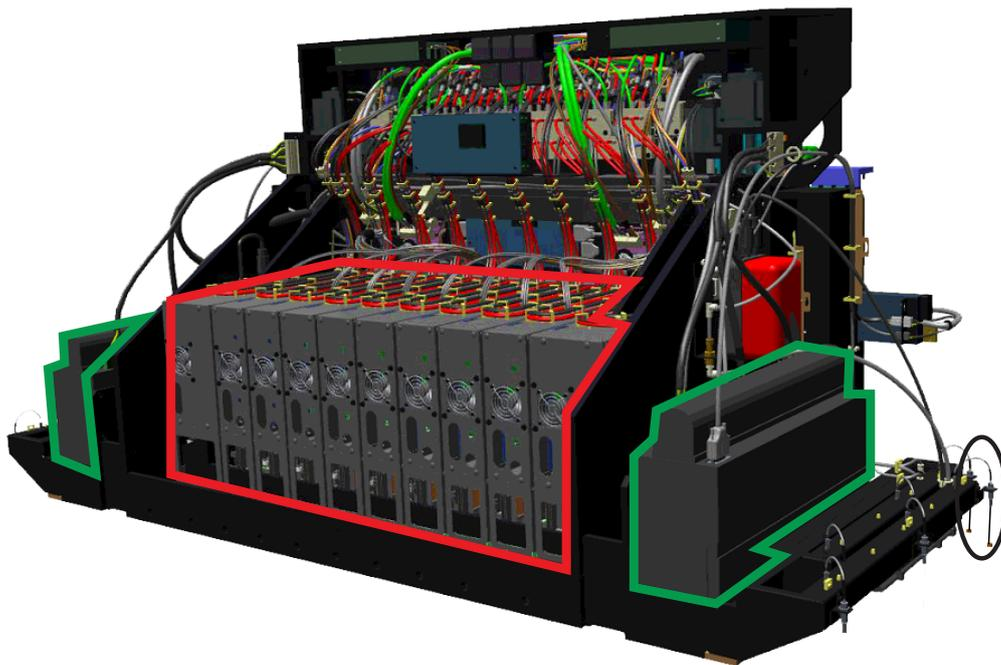

Fig.3-4: Carriage Front
- Eight or ten color bars (*outlined in red in Fig.3-4*) depending on options.
- Two UV curing modules (*outlined in green in Fig.3-4*).